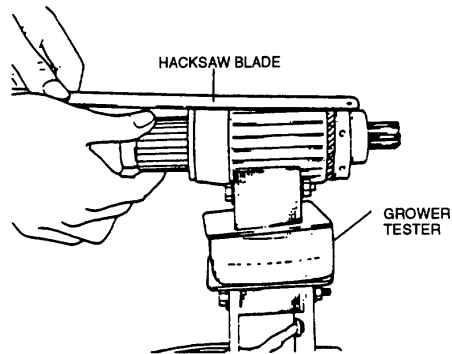

FIGURE 3-33. Growler Test
- Using a growler tester, place armature on it and hold a hack saw blade against armature core while slowly rotating armature, refer to FIGURE 3-33. A short circuited armature causes blade to vibrate and be attracted to core. An armature which is short circuited must be replaced.